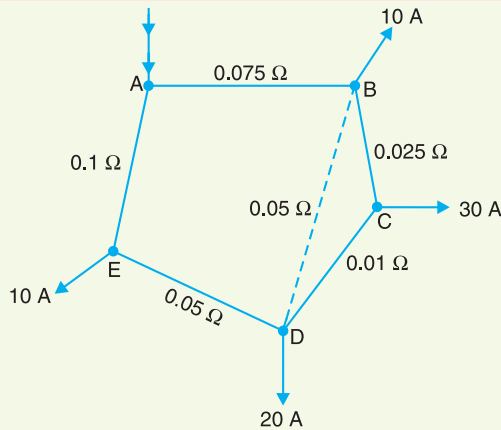

Fig. 13.43
**Example 13.25.** Fig. 13.43 shows a ring distributor with interconnector BD. The supply is given at point A. The resistances of go and return conductors of various sections are indicated in the figure. Calculate :